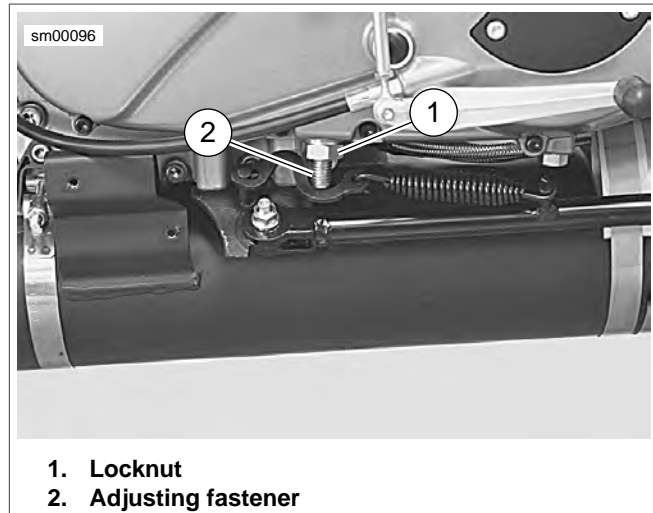

Figure 1-33. Chain Tension Adjusting Fastener (Typical)
- See Figure 1-33. Loosen locknut (1).
- Turn adjusting fastener (2):
3. Tighten locknut (1) to 20-25 ft-lbs (27-34 Nm).